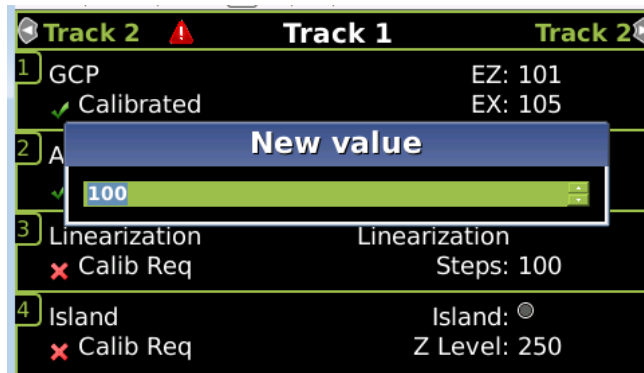

Figure 8 Enter New Values
Step 25	Select 2) Edit button. The New Value dialog box, Figure 8, appears.